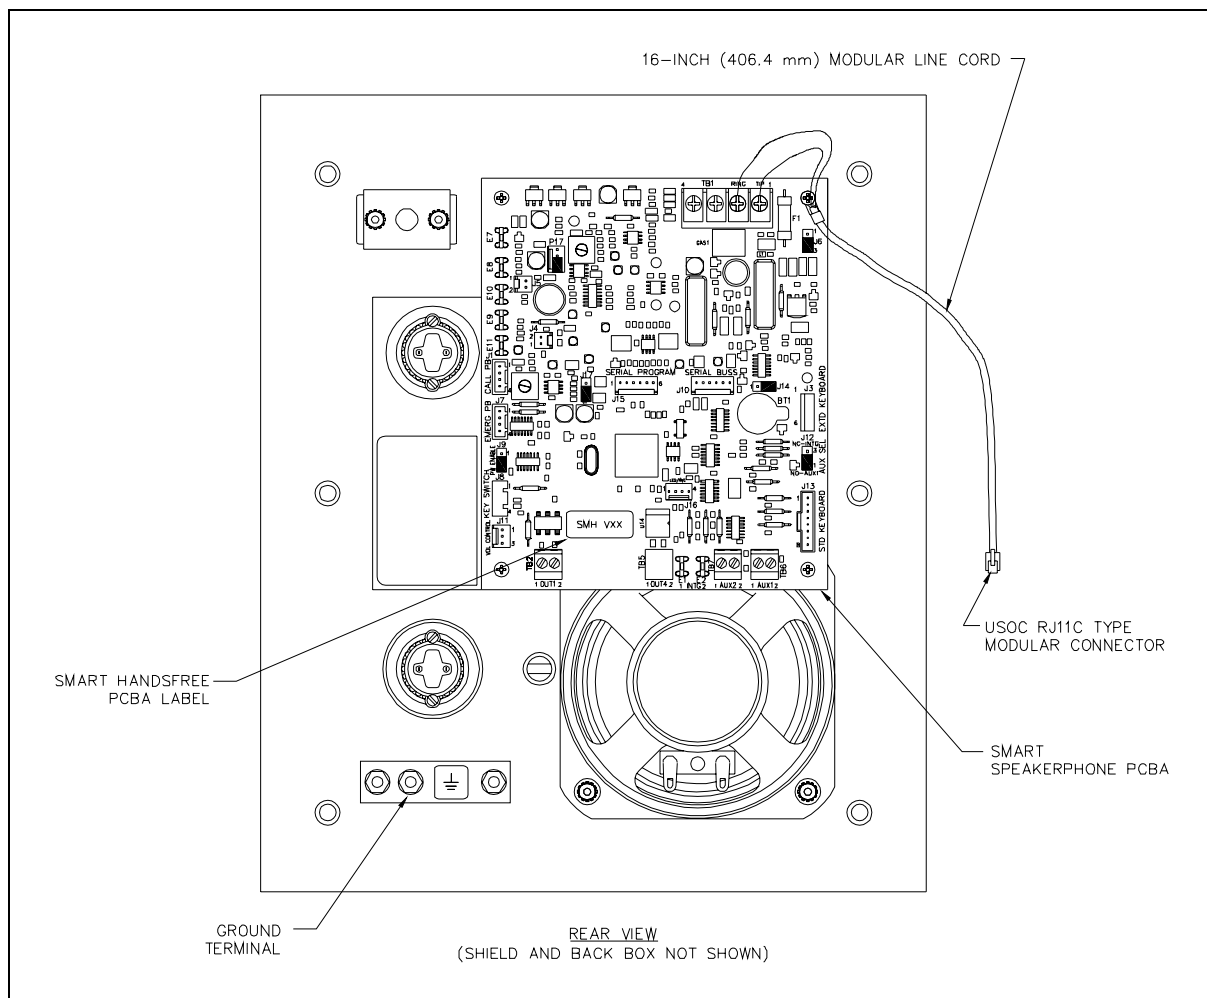

Figure 2. Model 297-003 and 298-003 PCBA Detail
1. Align the holes in the four corners of the new PCBA with the standoffs in the telephone, maintaining proper orientation. See Figure 2.